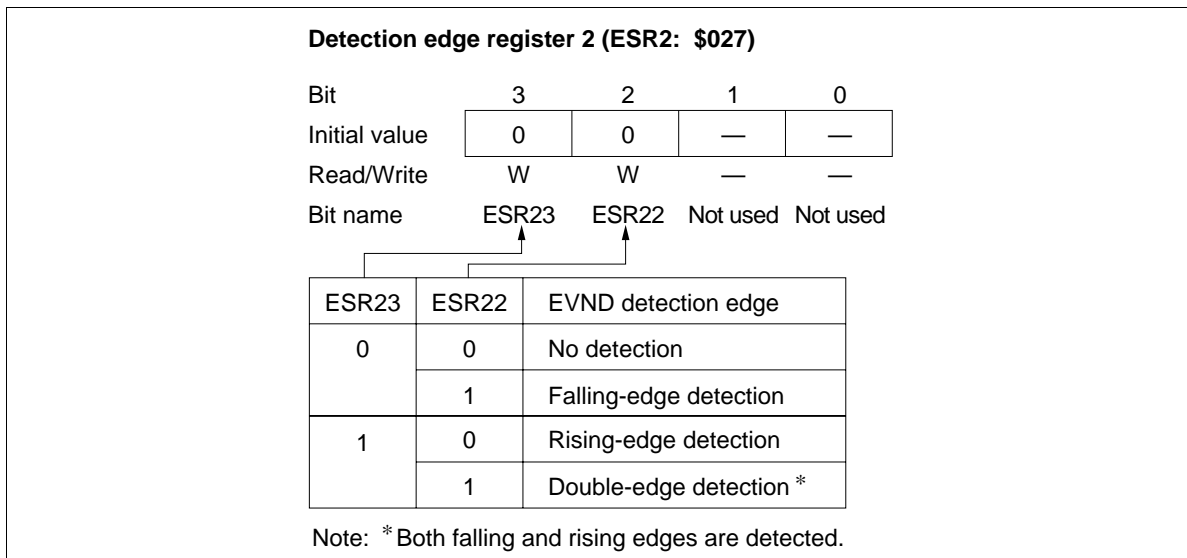

Figure 51 Detection Edge Select Register 2 (ESR2)
- Detection edge select register 2 (ESR2: \$027): Write-only register that selects the detection edge of signals input to pin EVND as shown in figure 51. It is reset to \$0 by MCU reset.